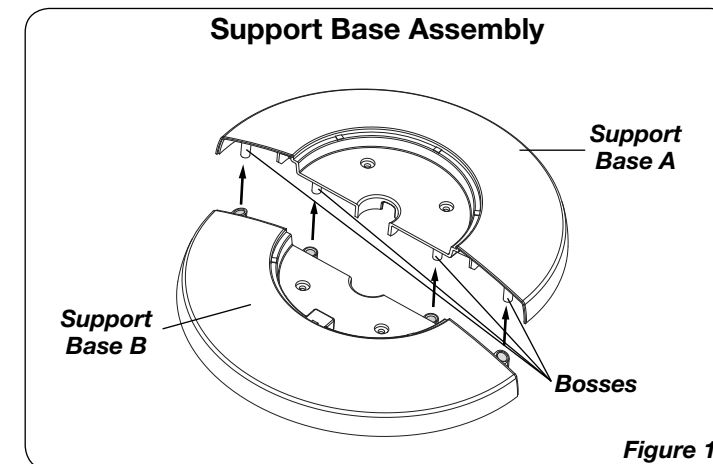

Figure 1
- Assemble the Support Bases by interlocking the **Bosses** on **Support Base A** into the **Boss Holes** on **Support Base B**. Thread the **Power Supply Cord** through the large hole in the center of the Support Base Assembly. (**Figure 1**)